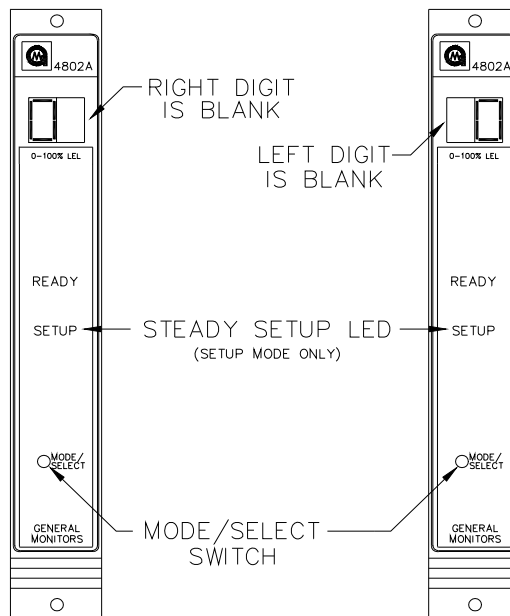

Figure 26: Entering the Password
- If the password option is enabled, the right digit of the display will be blank and a 0 will appear in the left digit on the display (Figure 26). Press the Mode/Select switch until the first number of your password is displayed and then wait about five seconds.
- The left digit of the display will then blank out and a 0 will appear in the right digit on the display (Figure 26). Press the Mode/Select switch until your correct password number is displayed and then wait about five seconds. If the password is correct the unit will proceed to the inhibit option. If the password is incorrect the user will not be able to proceed and the unit will return to the normal operating mode. Once in the operating mode the user may attempt to re-enter the Setup Mode. The factory default password is 00.